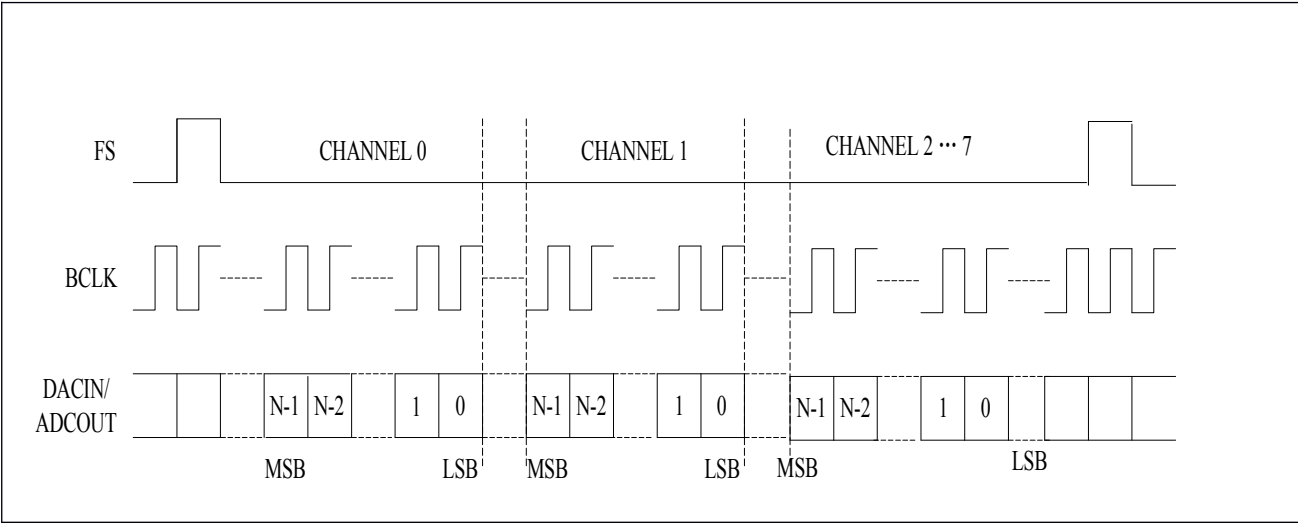

Figure 29 PCM Time Slot Audio Data
Normally, the DAC and ADC data are clocked immediately after the Frame Sync (FS); however, in PCM Time Slot Mode, the audio data can be delayed by setting **Error: Reference source not found Error: Reference source not found REG0XF[9:0]** and **Error: Reference source not found Error: Reference source not found REG0X10[9:0]** for the left and right channels, respectively. **Error: Reference source not found Error: Reference source not found REG0XE[10]** needs to be set to 1. These delays can be seen before the MSB in **Figure 29**.